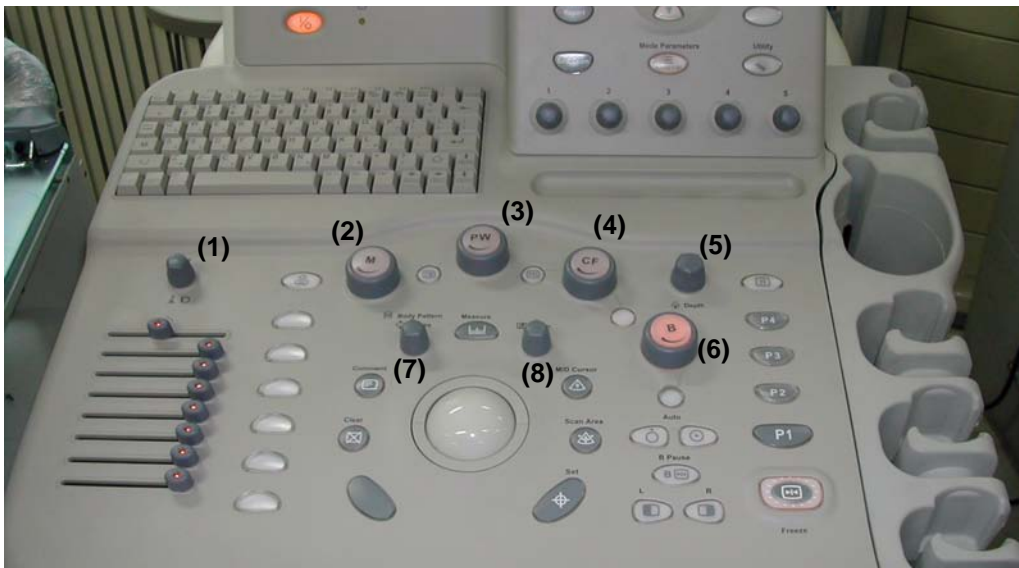

Figure 8-24 Removing 8 encoder knobs
- 1.) Remove the eight(8) encoder knobs (1-8) from the front side of the Keyboard. Refer to Figure 8-24.